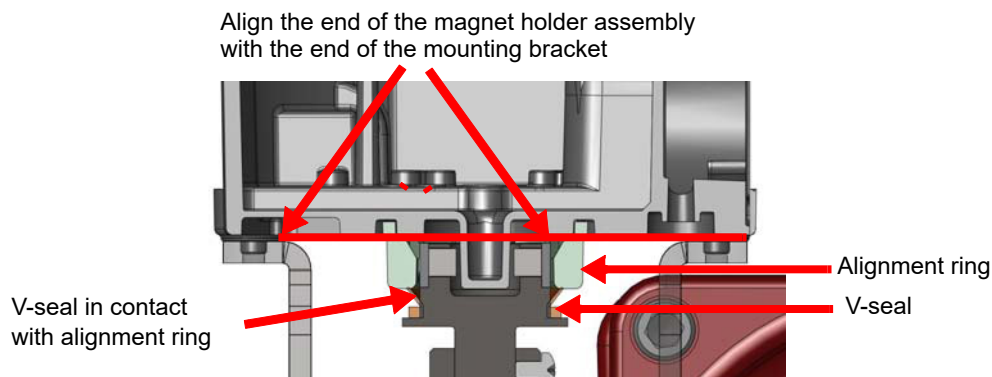

Figure 16 - Camflex V-Seal
6. Ensure that the V-Seal makes contact with the skirt around the alignment ring on the SVi1000 (Figure 16).